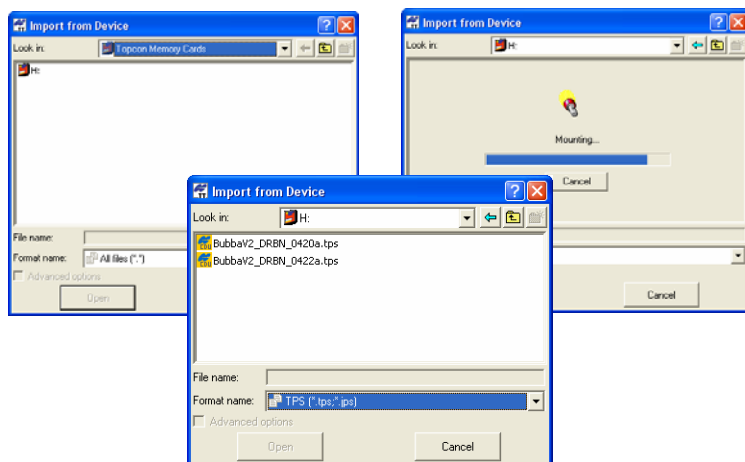

Figure 3-54. Import From Memory Card
3. Click **Memory Card** in the *Import from Device* dialog box. If the SD card was formatted in the receiver's file system, the disk, which designates the Topcon Memory Card, will display as red (Figure 3-54 on page 3-52).